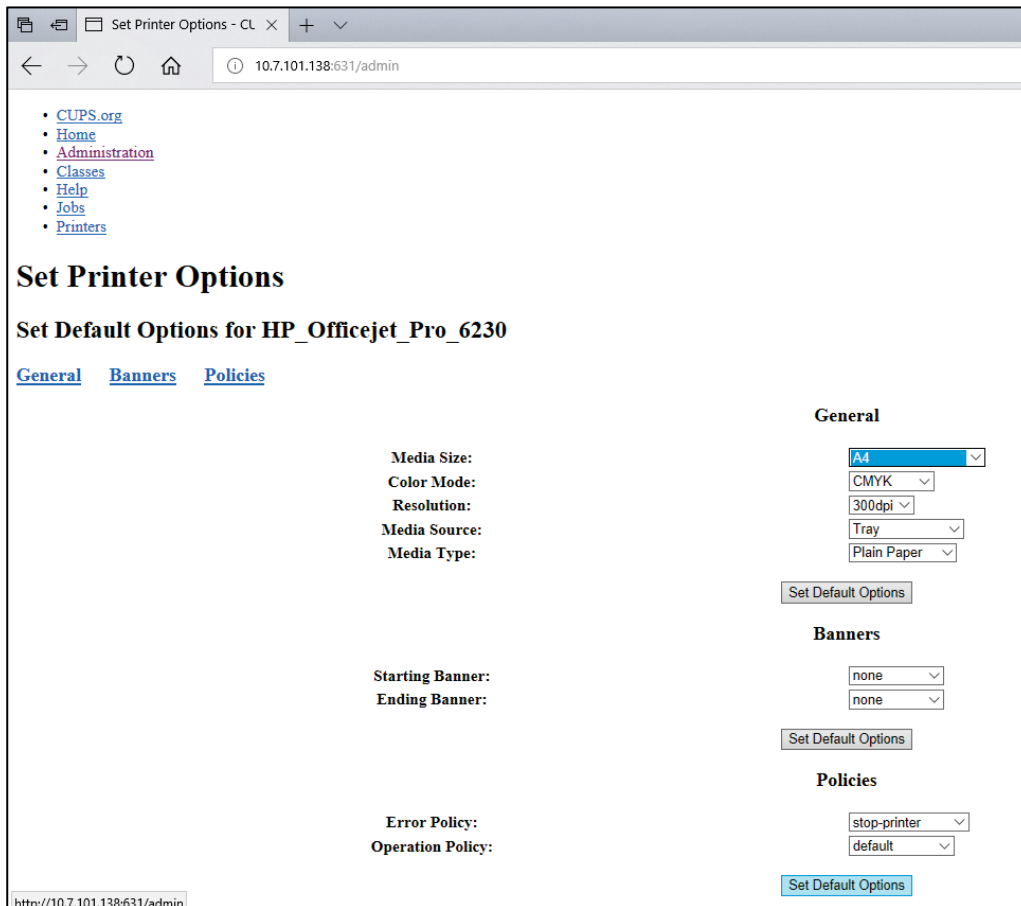

Figure 84. Selecting correct Media Size.
7. Select the correct **Media Size** (such as "A4"), because some printers will not print if the paper format is incorrect. Next, save the selection by pressing **Set Default Options** (Figure 84, next page).